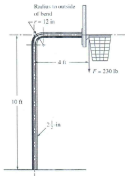

Figure 1
1. Figure 1 shows a basketball backboard and goal attached to a steel pipe that is firmly cemented into the ground. The force, $F = 230 \text{ lb}$, represents a player hanging from the back of the rim. Determine the maximum and minimum stresses of the curved beam. (20)